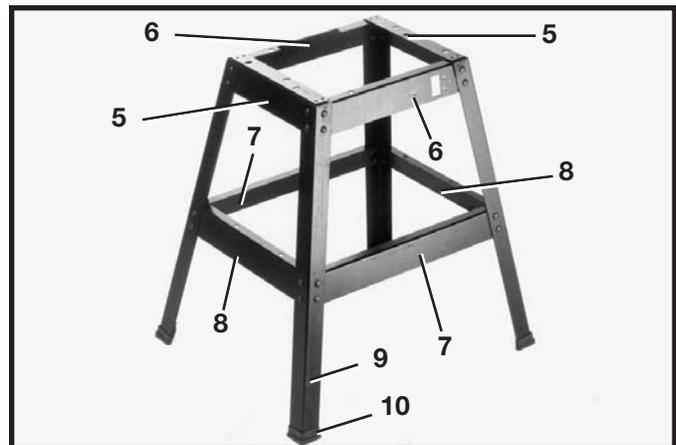

Fig. 5
1. Assemble stand as shown in Fig. 5 using parts shown in Fig. 4. The parts for the stand (as shown in Fig. 4) are:
To assemble, insert the 5/16-18x3/4" carriage head bolts through legs and braces then place the 5/16" flat washers on the bolts and secure with the 5/16-18 hex nuts. **Only tighten nuts finger-tight at this time. IMPORTANT:** The top lips of two upper end braces (5) Fig. 5, must fit on top of the top lips of two upper side braces (6).
2. Assemble four rubber feet (10), to the bottom of each leg (9) as shown.